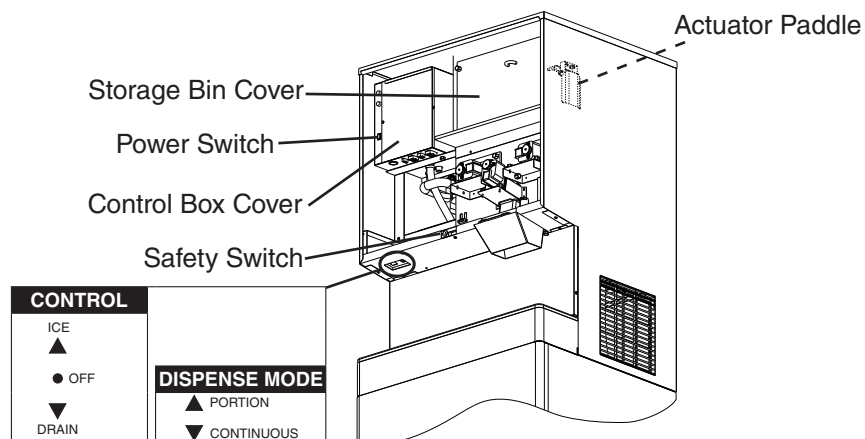

Fig. 5
- 2) Move the control switch to the "OFF" position. See Fig. 5.
- 10) Confirm bin control operation: Engage the safety switch on the front frame. See Fig. 5. After the compressor starts, press and hold the actuator paddle located inside the storage bin. **WARNING! Keep hands, hair, and loose clothing clear of the agitator inside the storage bin.** The icemaker should shut down within 10 seconds.